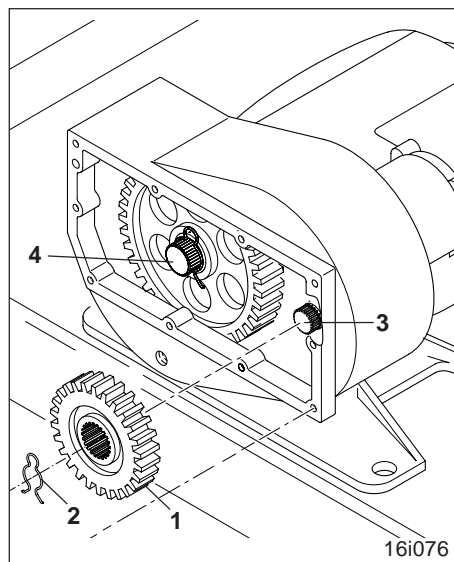

Fig. 9.8
- Retaining springs (Fig. 9.8/2) secure the gear wheels (Fig. 9.8/1) against axial movement on the shaft stubs. Remove retaining springs (Fig. 9.8/2). Pull the gear wheels off the shaft stubs of the drive shaft (Fig. 9.8/3) and the auxiliary shaft (Fig. 9.8/4). Interchange the gear wheels in the gearbox following the speed table (Fig. 9.6) or replace by another set of gear wheels.